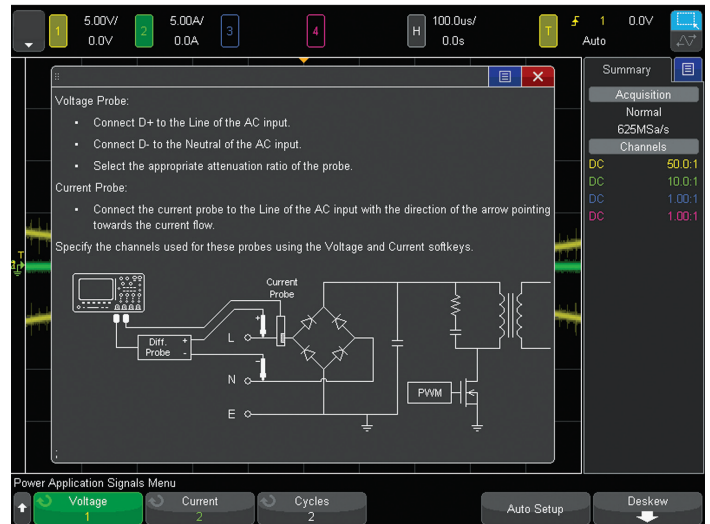

Figure 8. Connections diagram for the power quality measurement.
7. Connect the N2790A high-voltage differential active probe from the scope’s channel-1 input to Line (red lead) and Neutral (back lead) as illustrated in the connections diagram shown in Figure 8. If using Keysight’s SMPS training kit, connect the probe to TP2 (red lead) and TP1 (black lead).